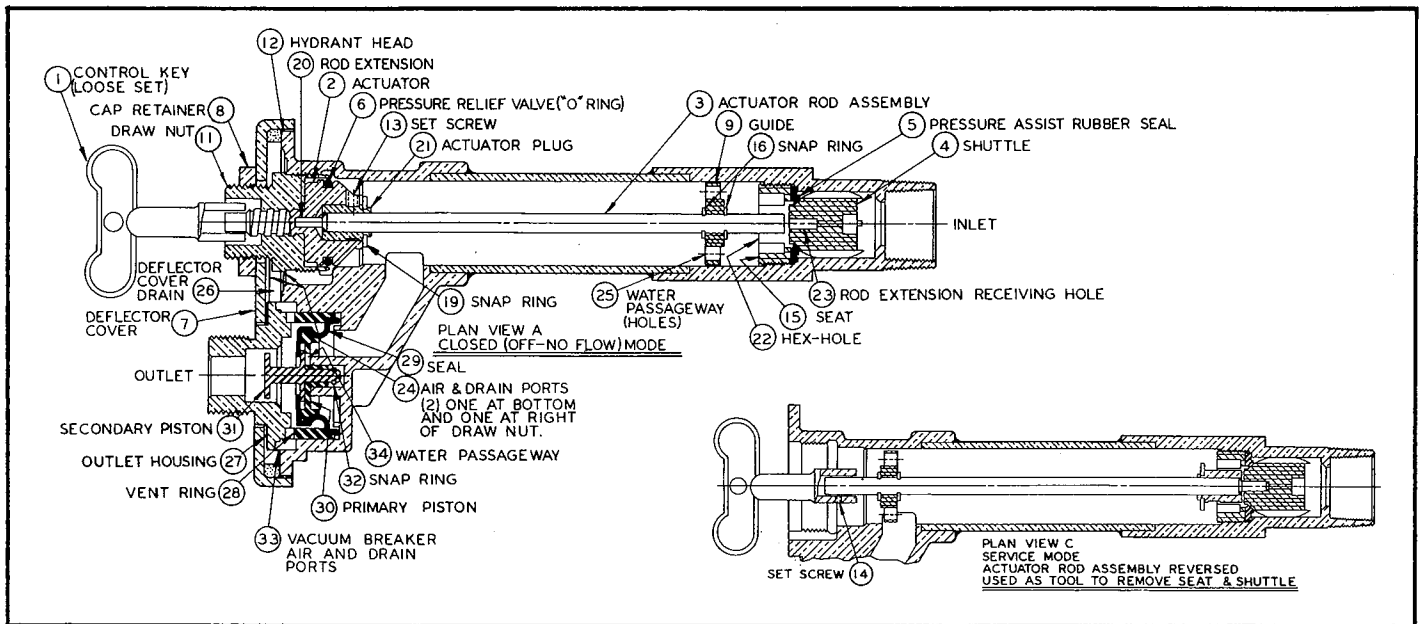

FIGURE 3
Refer to Figure 3 for identification of parts and features mentioned in these instructions.
D. Reverse Actuator Rod (3) and insert into hydrant as far as possible, using Control Key (1) secured to Actuator Rod (3) with Set Screw (14). With Actuator Plug (21) (hex.) on end of Actuator Rod (3) inserted in Hole (22) in Seat (15), which places Rod Extension (20) in Hole (23) in Shuttle (4), *firmly rotate Control Key (1) counterclockwise to unscrew Seat (15) and pull out entire Valve (15, 5 and 4). See Figures 3, 6, and 7.*
E. Replace worn parts with new parts as required. Reassemble hydrant, reversing the procedure in Steps A through D to place it back in service. Be sure to make Cap Retainer (8) tight to prevent tampering.